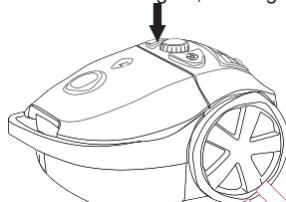

Figure 6 On/Off switch
6. Put the plug in the wall socket, and press the On/Off switch. To switch off the appliance, press the On/Off switch again, see Figure 6.